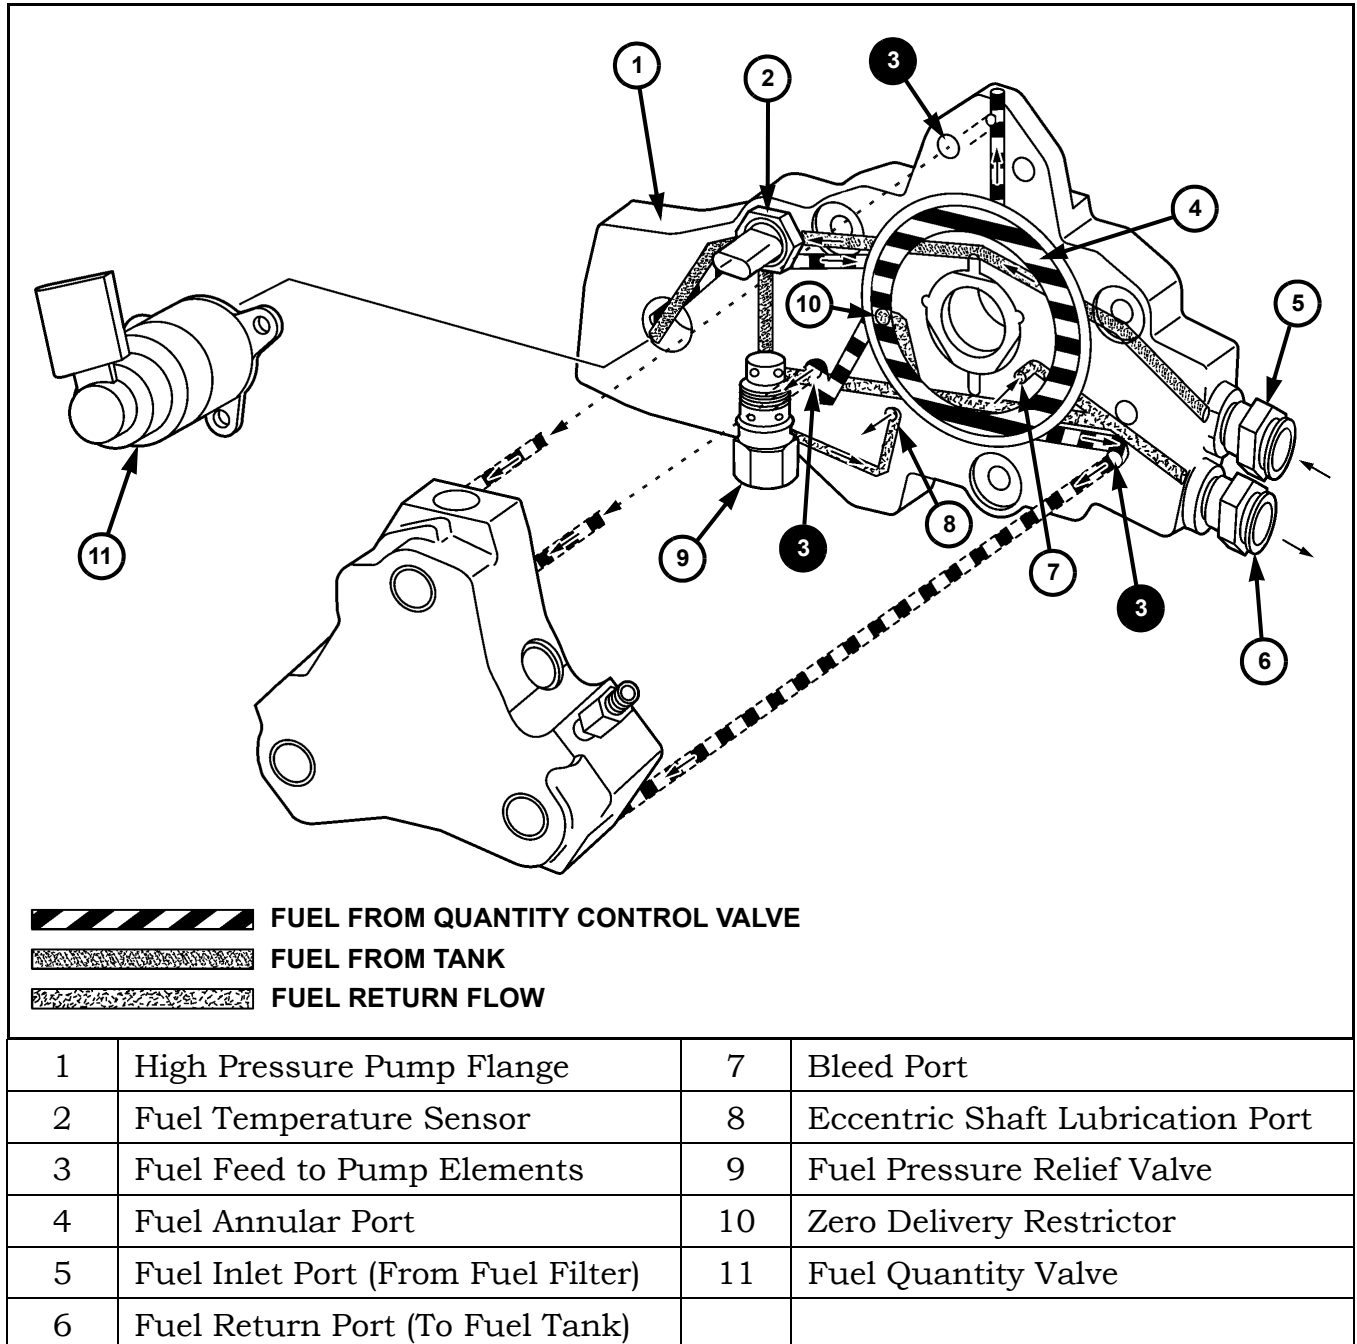

Figure 37 Low Pressure Side, Pump Flange
Refer to Figure 37. The fuel supplied by the electric fuel pump flows through the fuel feed (5) at the high pressure pump flange (1) and is passed from there to the fuel quantity valve (11) and to the fuel pressure relief valve (9).